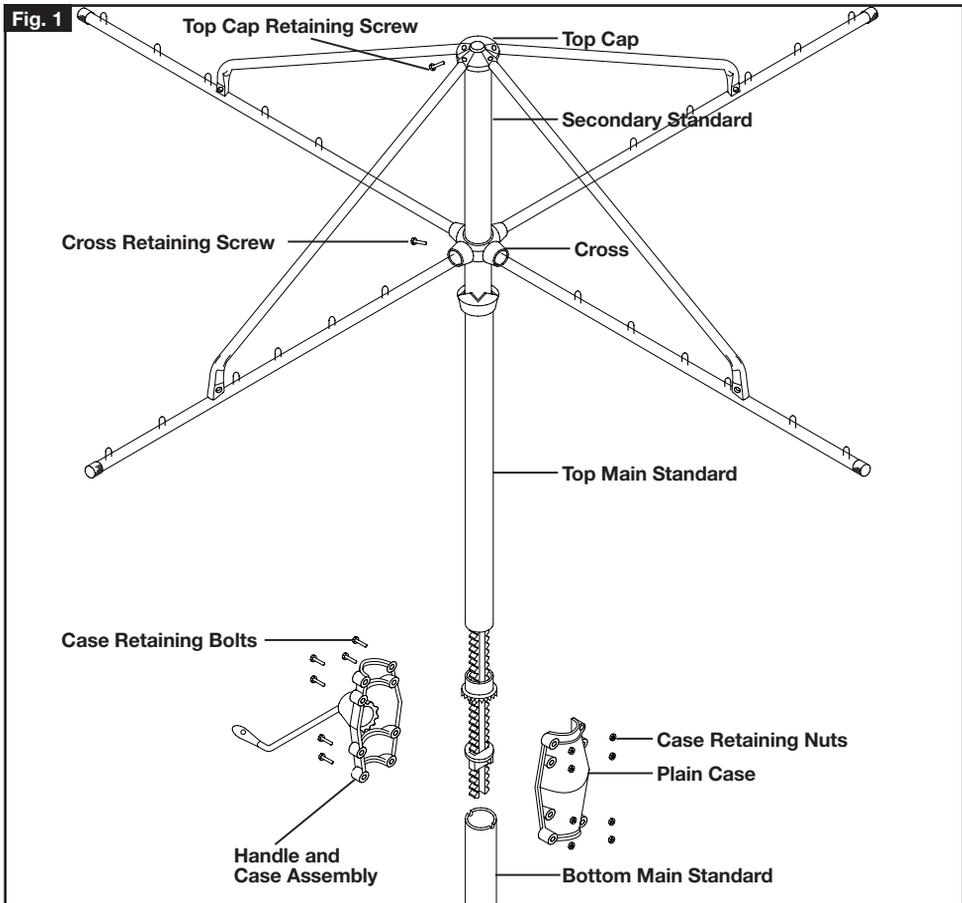

Fig. 2
5. Undo the Wind Brake retaining screw and slide the Wind Brake and Bush off of the end of the Secondary Standard. **Fig. 2.**